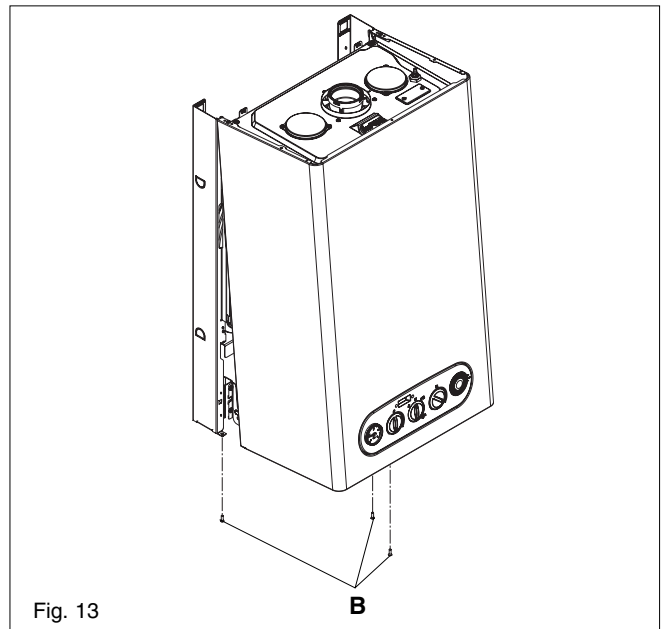

Fig. 13
4.7.1 CASING REMOVAL (fig. 13)